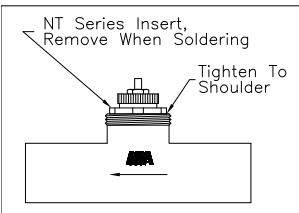

Fig. 2 NT Series Insert
- Insert assembly **MUST** be removed from valve bodies with sweat fittings before installation to avoid heat damage to rubber components (Fig. 2).